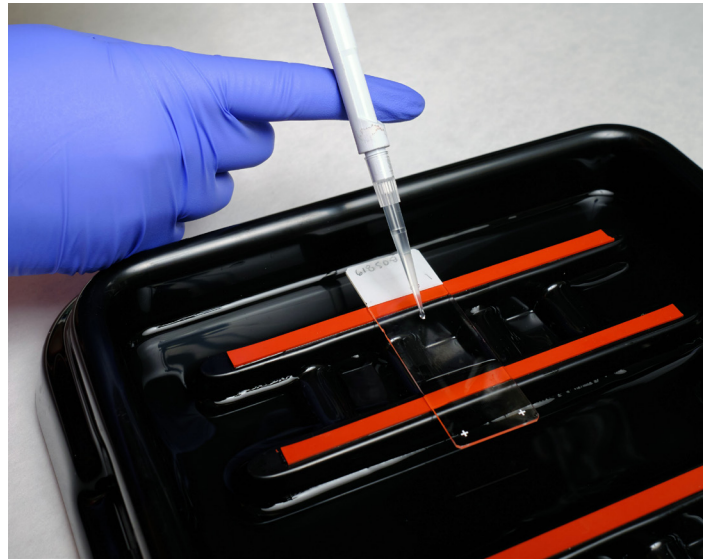

FIGURE 3-8: Dispensing Antibody Cocktail onto FFPE Sample Slide
10. Quickly dispense the 190 μ L of the Antibody Cocktail to the top corner of the sample slide, as shown in FIGURE 3-8. Ensure that the liquid covers the entire tissue.